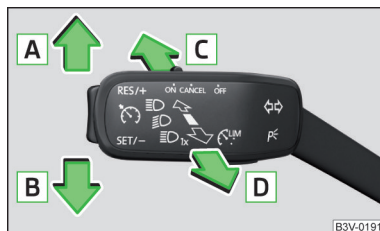

Fig. 55
**Operating lever positions » Fig. 55**